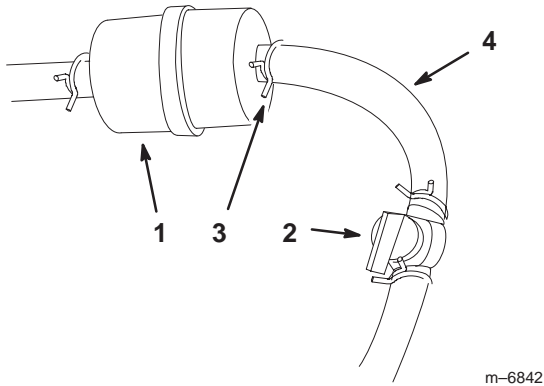

Figure 45
7. Install a new filter and move the hose clamps close to the filter (Fig. 45).
2. Close the fuel shut-off valve (Fig. 45).
3. Loosen the hose clamp at the fuel filter and slide it up the fuel line away from the fuel filter (Fig. 45).
4. Pull the fuel line off fuel filter (Fig. 45). Open fuel shut-off valve and allow gasoline to drain into a gas can or drain pan.
5. Install the fuel line onto the fuel filter. Slide the hose clamp close to the fuel filter to secure the fuel line (Fig. 45).